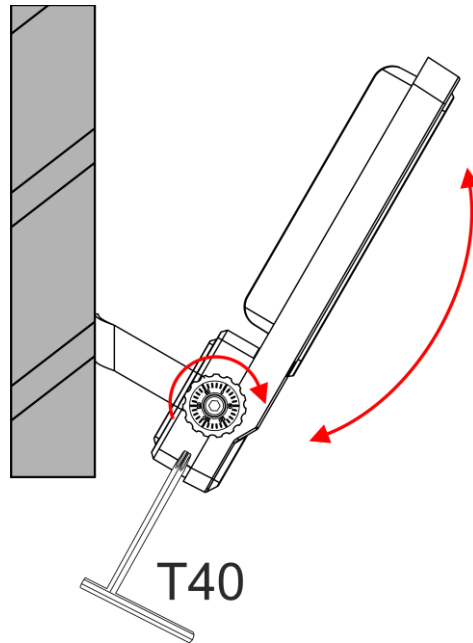

Fig. 14
- 01) Turn the **adjustment screws (06)** counterclockwise to release them.
- 02) Tilt the device to the desired angle (Fig. 14).
- 03) Turn the **adjustment screws (06)** clockwise to tighten them. Make sure that the device cannot move freely.